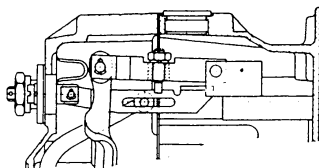

Fig. 3
With size "P" governors, the strap attached by screws to the control rod (item 7, fig. 3) has also been changed. This new strap can however only be used in conjunction with the adjustable link fork.